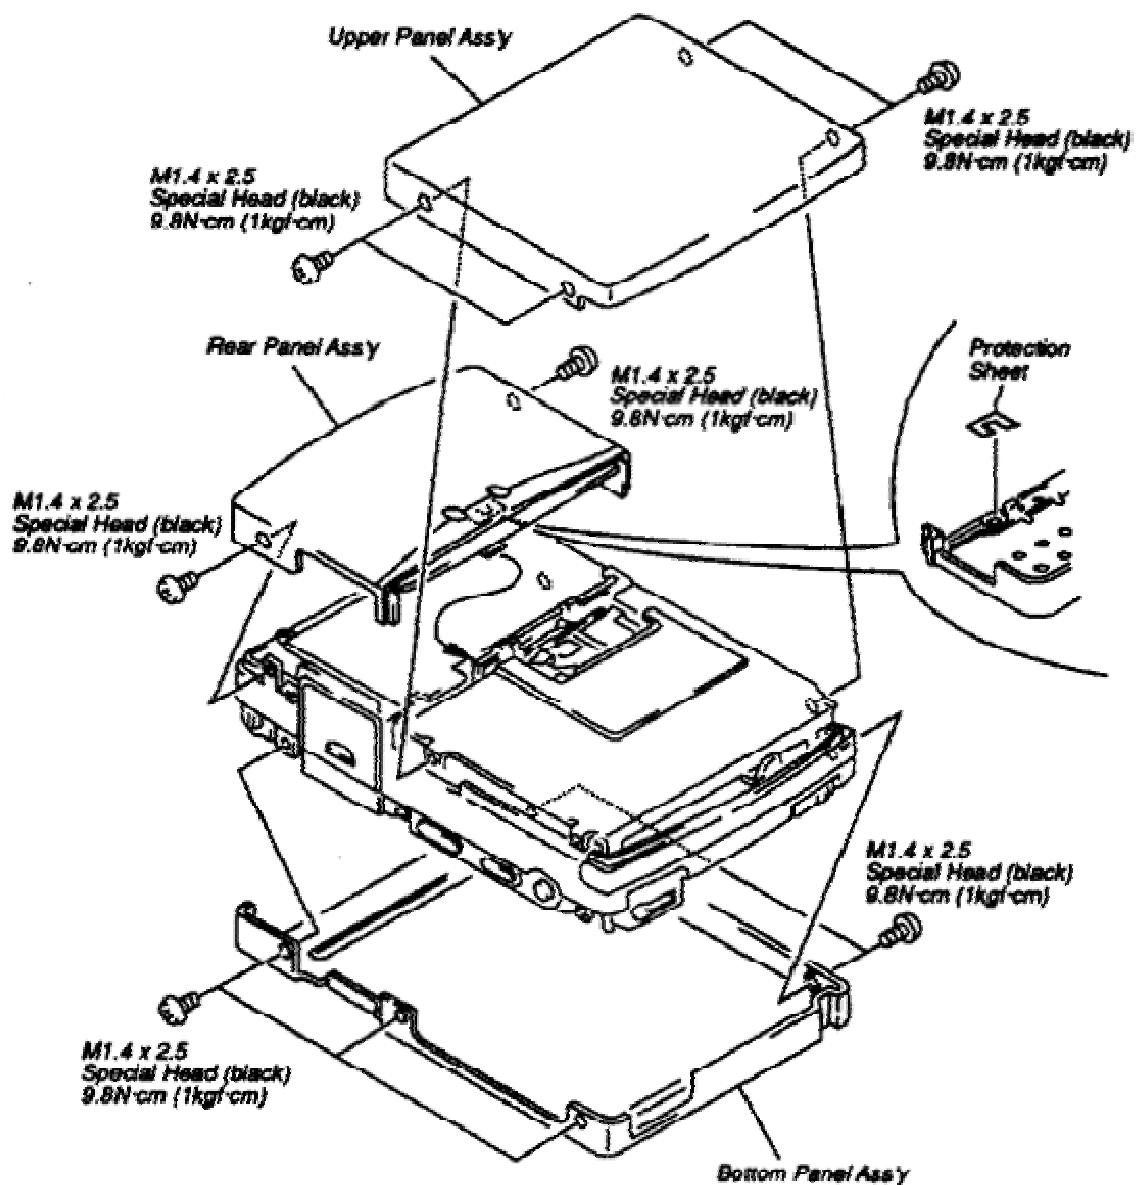

Fig. 4-1 Upper Panel and Rear/Bottom Panel Ass'y Replacement
- Remove the six screws (M1.4x2.5 Special Head/black) securing the Upper Panel and Rear Panel Ass'y. They are taken away. (Refer to Fig. 4-1)
- Remove the five screws (M1.4x2.5 Special Head/black) securing the Bottom Panel Ass'y. It is taken away. (Refer to Fig. 4-1)